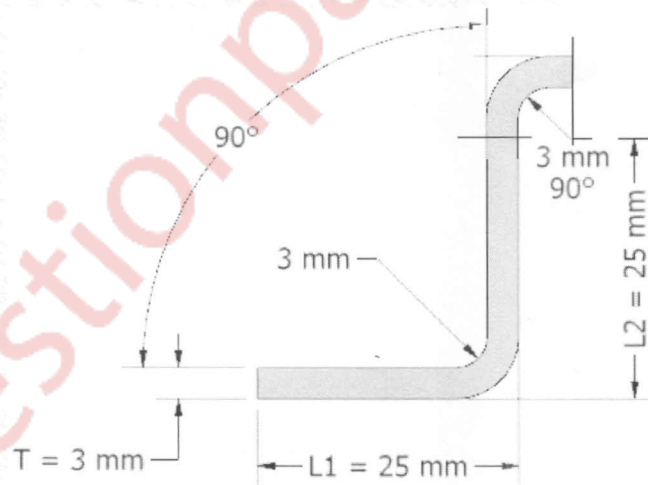

Figure No. 2 (Bending Component)
- (b) Find the Developed length for the figure no. 2 drawn below. Width = 15 mm. UTS = 35 kgf/mm^2 08